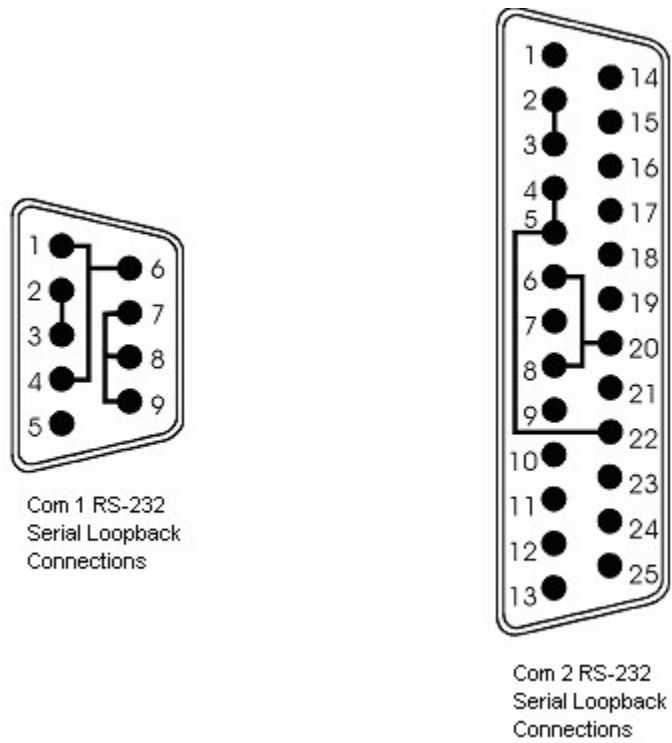

Figure 5-1. Serial Loopback Connections
3. Connect the serial loopback connector(s) and the printer cable to the appropriate connectors, and connect a PC/AT or PS/2 keyboard. Figure 5-1 illustrates the wiring necessary for the loopback connection.